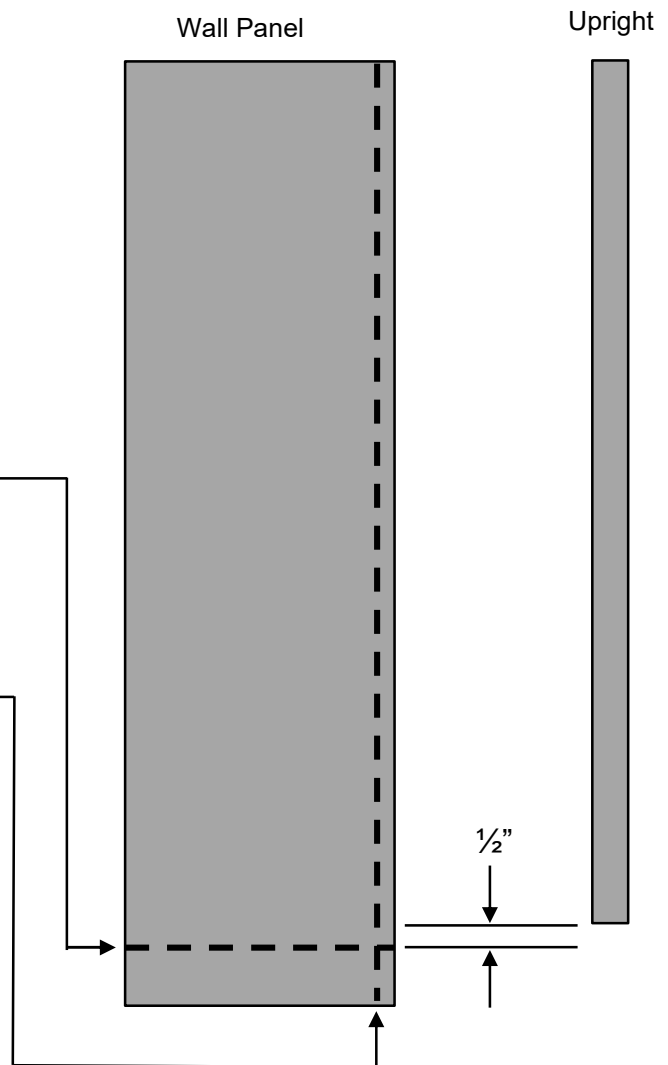

Figure 19
2. The height should be  $\frac{1}{2}$ " taller than the Upright. (See Figure 19). The Wall Panel should rest on the base deck when assembled.
3. **FOR END WALL PANELS ONLY** If the far right or far left Upright was moved inward 1", then cut 1" off the side of that Wall Panel (See Figure 19).